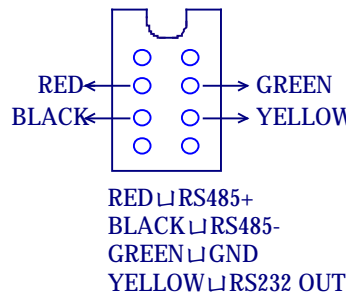

Figure 4
1. The marking of wires of the transfer box (Figure 4)